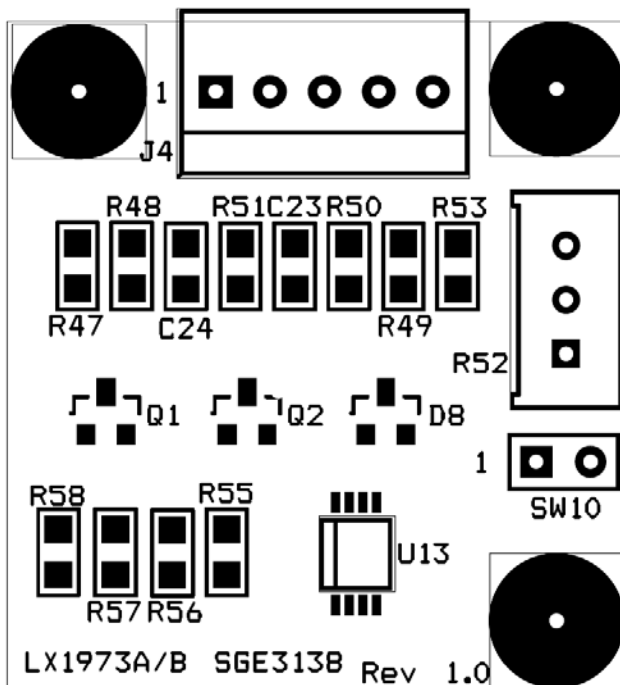

Figure 2: LX1973B Evaluation Board PCB Layout
**PCB Layout:** The LX1973B Eval board layout is shown in Figure 2.